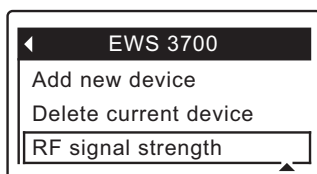

FIG. 53
3. Press the DOWN (▼) button to scroll through the menu options until **RF signal strength** is highlighted in a box (See Figure 53).